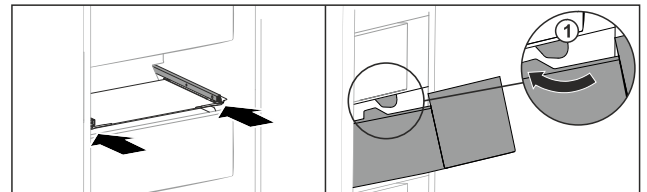

Fig. 154
- ▶ Guide drawer around the stoppers Fig. 154 (1).